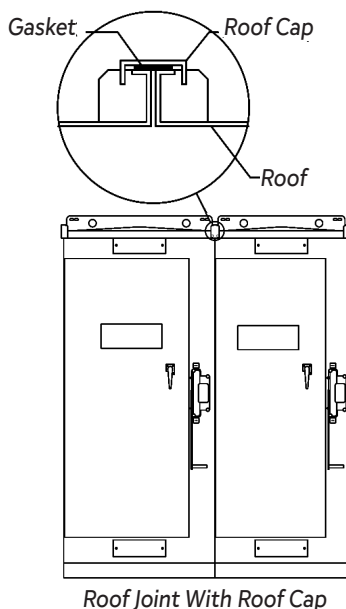

Figure 5. Installation of roof caps over roof flanges on outdoor switchgear.
On Federal Pacific **outdoor** switchgear a suitable outdoor caulk (Sealant #GEI08) should be applied to seal the surfaces between the cubicles. For the roof seal Federal Pacific uses a roof cap channel design with a gasket (furnished) to prevent water from entering into the connecting bus area. See Figure 5).
Step 6 - On outdoor switchgear, after all bays are in place and bolted together, install roof caps and gaskets (furnished) over roof flanges (See Figure 5) between bays and bolt in place using the hardware furnished. Using an outdoor rated caulk, #GEI08 or equal, caulk the vertical edges between adjacent cubicles. It is not necessary to caulk the metal surfaces between the roof cap hardware and the roof cap gasket. Install and tighten bolts and nuts at edges of through-bus openings on adjacent bays using the hardware furnished.